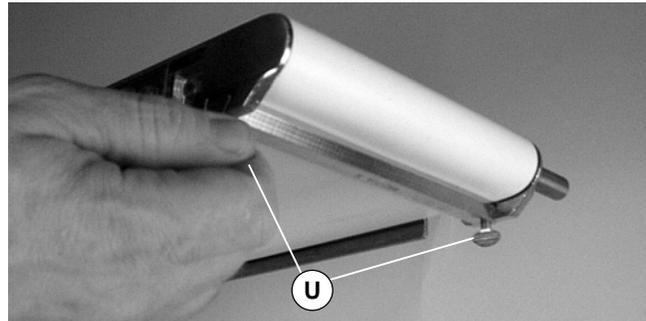
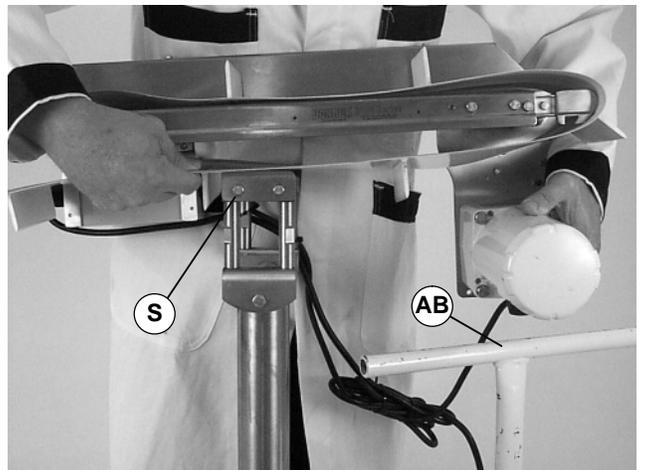

Figure 18
Figure 23
1. For a flat belt conveyor, remove and retain the bottom wiper(s) (U of Figure 18).
The weight of the gearmotor is all on one end of the conveyor which could cause it to tip off the stands when the mounting clamp plates are loosened. Be sure to provide support (AB of Figure 23) underneath the gearmotor while changing the belt.
6. Temporarily support conveyor at gearmotor mounting package (AB of Figure 23).
7. Loosen the mounting clamp plates (S of Figures 23 and 24), on both sides of the conveyor. Raise the conveyor and remove the belt.
3. On a flat belt conveyor, install bottom wiper(s) (U of Figure 18). Center thumbscrews in frame and tighten.
2. Loosen the mounting clamp plates (S of Figures 23 and 24), on both sides of the conveyor. Raise the conveyor and replace the belt.
4. Tighten clamp plates screws (S) to 92 in-lb (10.4 Nm).
5. On a flat belt conveyor, install bottom wiper(s) (U of Figure 18). Center thumbscrews in frame and tighten.